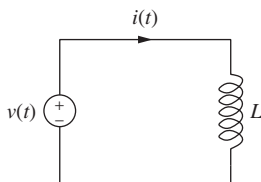

Figure P8.10 Voltage and current in an inductor.
- 8-10.** The voltage across an inductor in Fig. P8.10 is given by $v(t) = L \frac{di(t)}{dt}$. If $i(t) = t^2 e^{-t}$ A and $L = 0.25$ H,
- 8-11.** The voltage across the inductor of Fig. P8.10 is given by $v(t) = L \frac{di(t)}{dt}$. Determine the voltage $v(t)$, the power $p(t) = v(t) i(t)$, and the maximum power